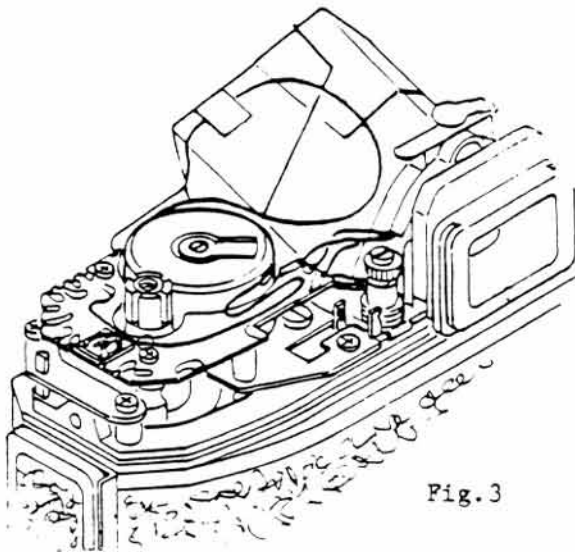

Fig. 3
- b. The wires connected with Meter drum are positioned as shown in Fig. 3